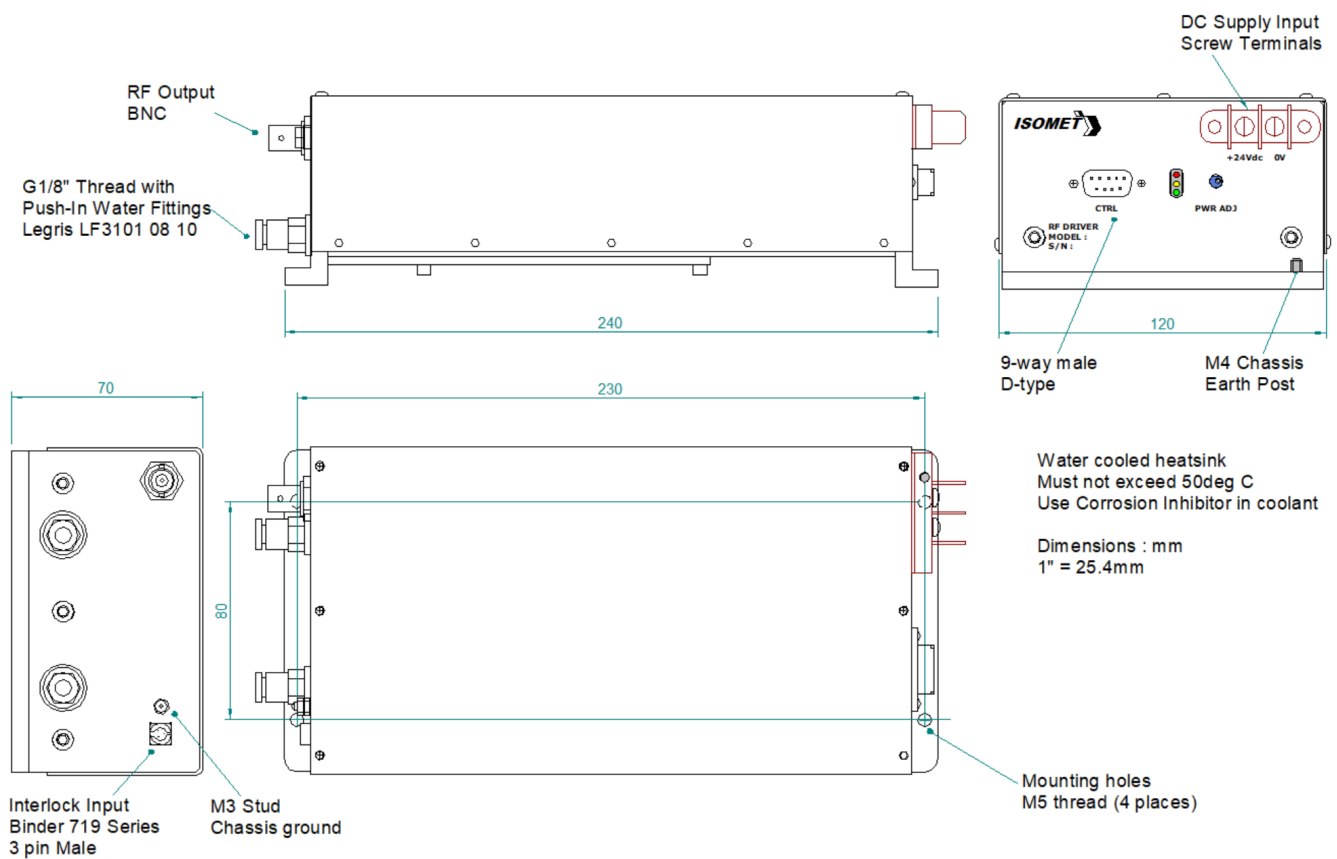

Figure 1: Driver Installation, mounting holes: 4 x M5
- 3.2 Connect the +24V (or +28V) and 0V DC supply to the feed-thru screw terminals as marked. See figure 1. (See page 9). DO NOT turn on DC supply until step 3.10